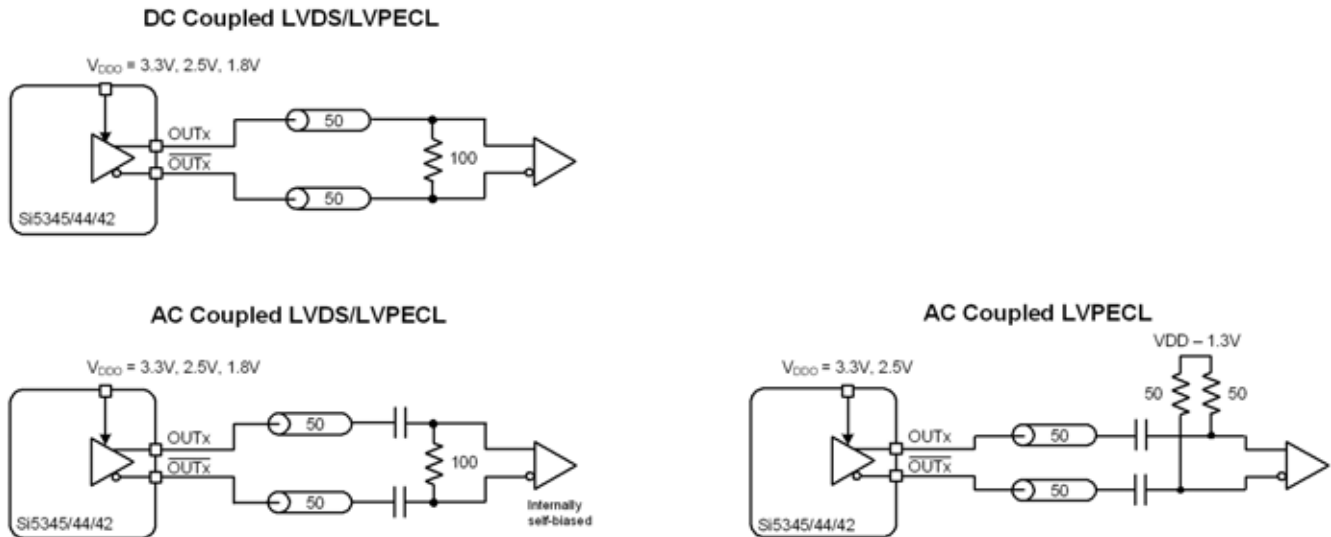

Figure 23. Supported Differential Output Terminations
The differential output drivers support both ac coupled and dc coupled terminations as shown in Figure 23.
- Differential Normal Swing Mode:** When an output driver is configured in normal swing mode, its output swing is selectable as one of 7 settings ranging from 200 mVpp_{se} to 800 mVpp_{se} in increments of 100 mV. The output impedance in the Normal Swing Mode is 100Ω differential. Any of the terminations shown in Figure 23 is supported in this mode.
- Differential Low Power Mode:** When an output driver is configured in low power mode, its output swing is configurable as one of 7 settings ranging from 400 mVpp_{se} to 1600 mVpp_{se} in increments of 200 mV. The output driver is in high impedance mode and supports standard 50 Ω PCB traces. Any of the terminations shown in Figure 23 is supported in this mode.